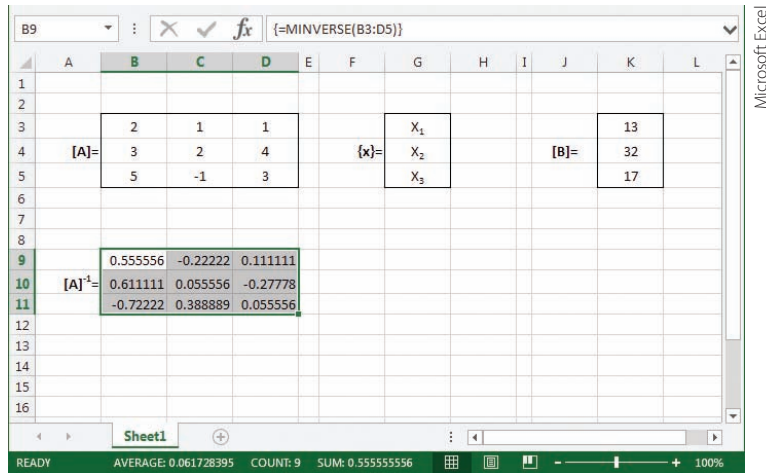

FIGURE 14.43
3. Next, in the formula bar, type **=MINVERSE(B3:D5)**, and while holding down the **Ctrl** and the **Shift** keys, press the **Enter** key. This sequence of operations will create the result shown in Figure 14.43. The inverse of matrix $[A]$ is computed.